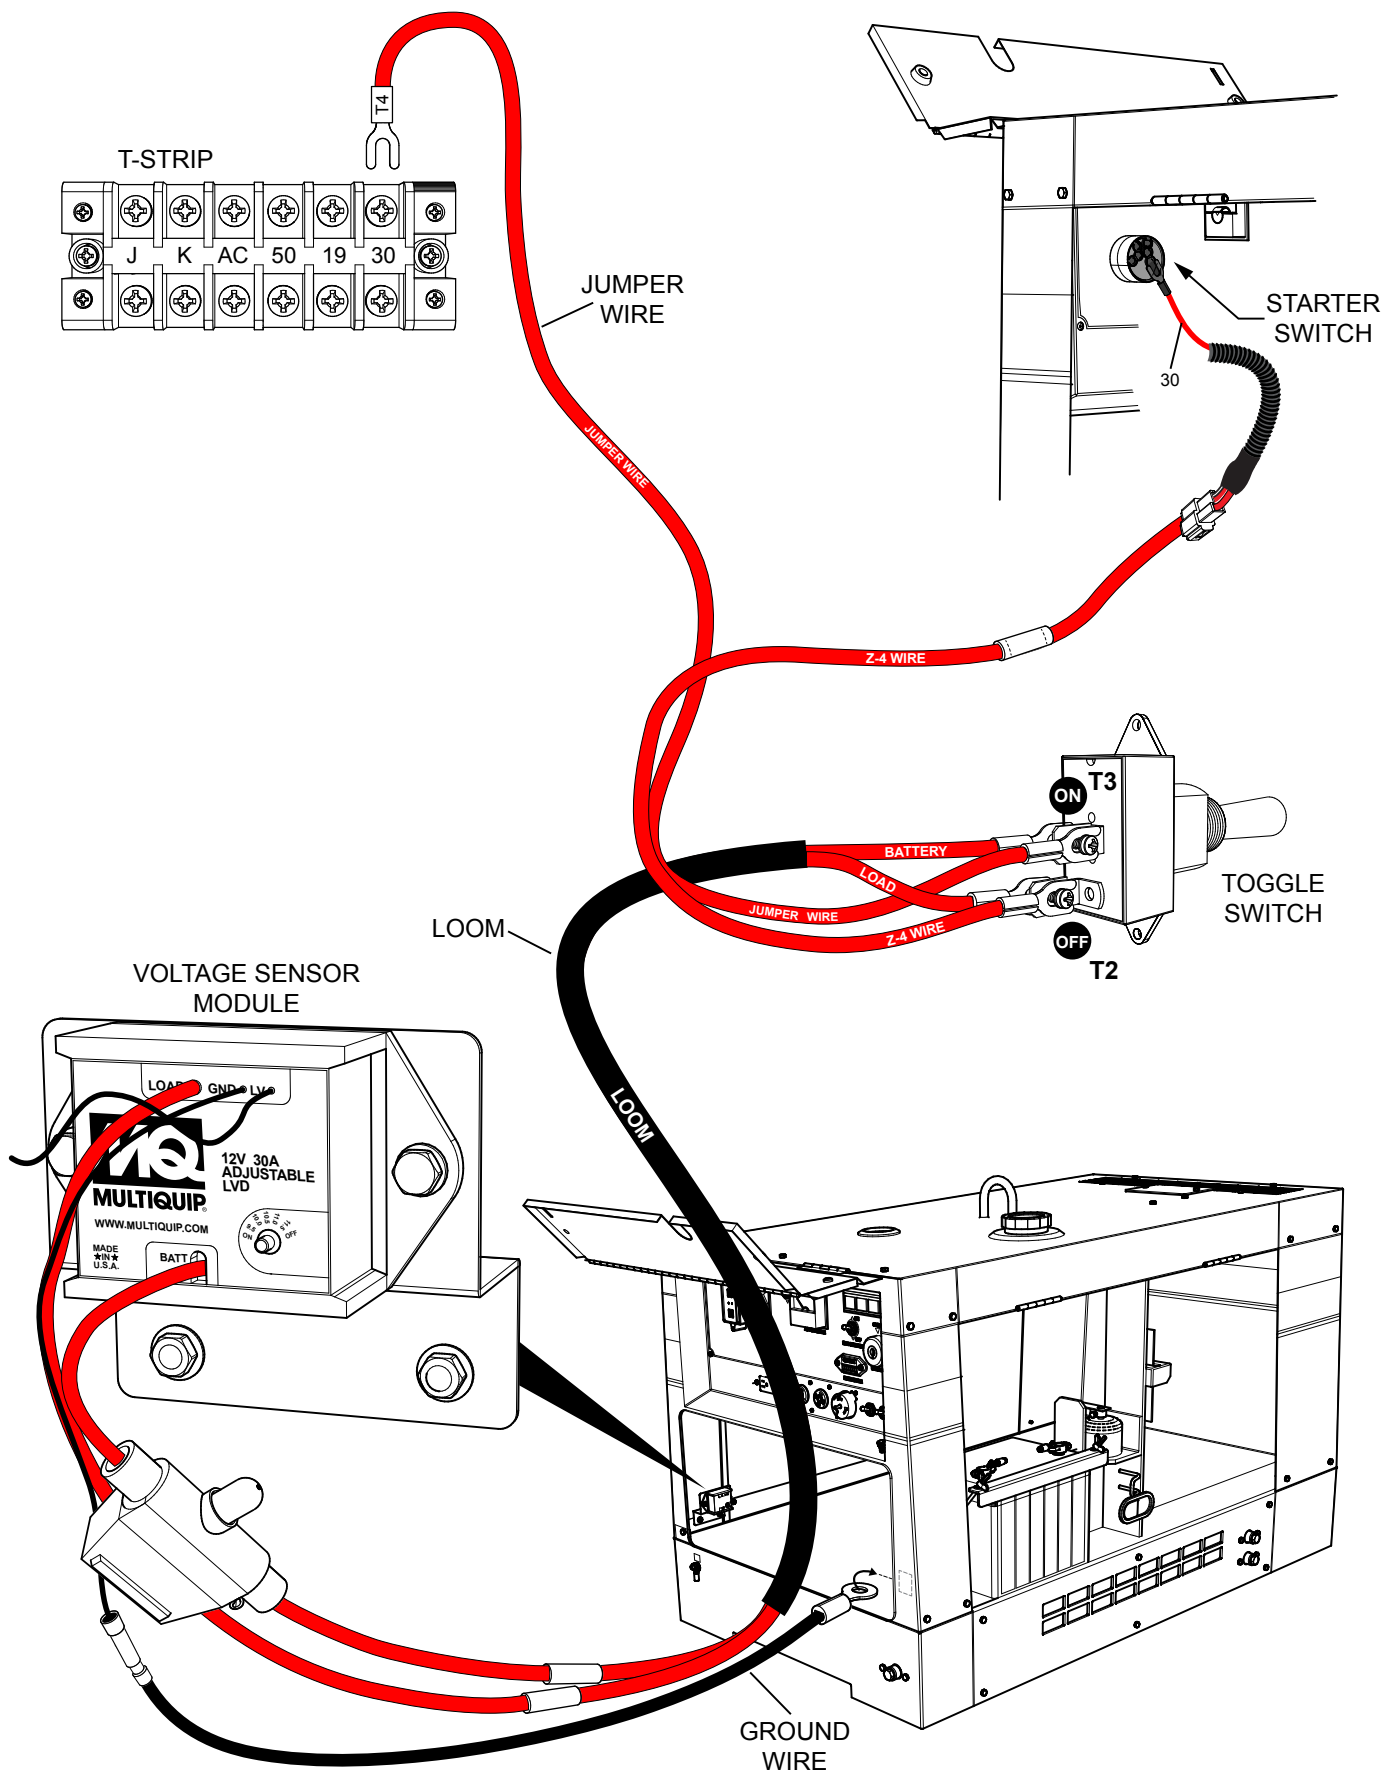

Figure 12. Voltage Sensor Module Wiring
1. Using a phillips head screwdriver, disconnect (Figure 12) the existing T-strip, terminal 30 wire.
3. Route the LVD module LOAD red wire (Figure 12) up to the toggle switch, T2, OFF terminal.
4. Locate the Z4 labeled wire (Figure 12) coming off the toggle switch, T2, OFF terminal. This wire will already be attached to the toggle switch.
5. Route the Z4 wire to the starter switch, terminal 30 wire (Figure 12) and connect both wires via the butt connectors.
6. Route the LVD module BATT red wire (Figure 12) up to the toggle switch, T3, ON terminal.
8. Route the T4 jumper wire (Figure 12) from the toggle switch, T3, ON terminal to the T-strip, terminal 30.
11. Connect the terminal ring end of the grounding wire to the battery negative post as shown in (Figure 12).
12. Route the provided grounding wire through the zip ties securing the existing wiring harness and connect the grounding wire butt connector end to the low voltage disconnect module grounding wire as shown in Figure 12.